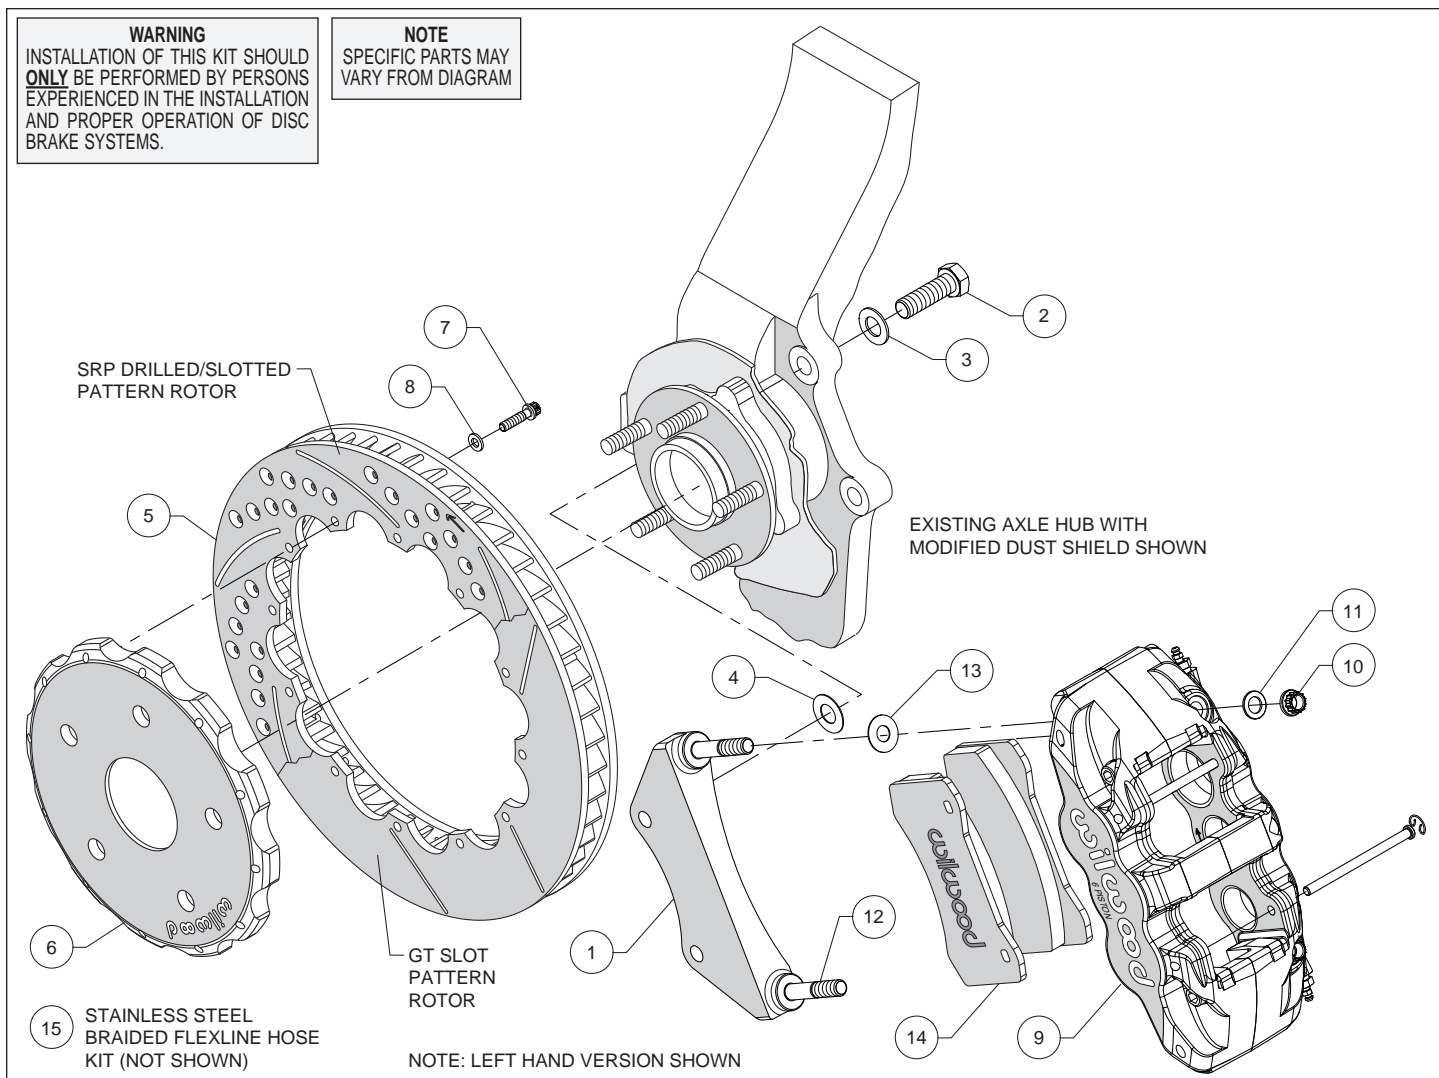
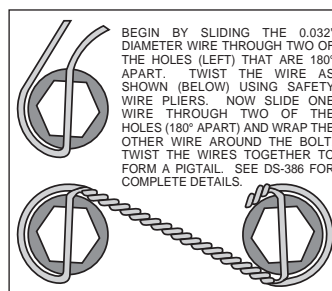

Figure 1. Typical Installation Configuration
Figure 3. Safety Wire Diagram
Assembly Instructions (numbers in parenthesis refer to the parts list and Figure 1 on the preceding pages):
- The caliper mount bracket (1) should initially be installed with clean, dry threads on the mounting bolts. Orient the bracket as shown in Figure 1 and Photo 2, and install using bolts (2) and washers (3). Initially place one .029 thick shim (4) on each bolt between the bracket and upright, Figure 1. Temporarily tighten the mounting bolts. **NOTE:** The bracket must fit squarely against the mounting points on the upright. Inspect for interference from casting irregularities, machining ridges, burrs, etc. Later, after the caliper alignment has been checked, the mount bolts will be secured using red *Loctite*[®] 271.
- Orient the rotor (5) and the hat (6) as shown in Figure 1 and Photo 3. Attach rotor to hat using bolts (7) and washers (8). Using an alternating sequence, apply red *Loctite*[®] 271 to the threads, and torque to 155 **in-lbs**. For an added measure of security, the bolts may be safety wired using standard 0.032 inch diameter stainless steel safety wire as shown in Figure 3. Please refer to Wilwood's data sheet DS-386 for complete safety wire installation instructions.
- NOTE:** This kit contains distinct right and left hand calipers that must be mounted in a specific direction, as described below. Lubricate the caliper mounting studs (12) with lightweight oil. Initially place one .030" thick shim (13) on each stud between the caliper and the bracket, as shown in Figure 1 and Photo 4. Mount the caliper (9) onto the bracket (1) using lock nuts (10) and washers (11), Figure 1. Ensure that the caliper is mounted so the largest pistons are at the rotor exit end of the caliper, in relation to the direction of rotor rotation. Temporarily tighten the lock nuts and view the rotor through the top opening of the caliper. The rotor should be centered in the caliper, Photo 5. If not, adjust by adding or subtracting shims (4) between the bracket and the upright. Always use the same amount of shims on each of the two mounting bolts. Once the caliper alignment is correct, remove the bracket mounting bolts (2) one at a time, apply red *Loctite*[®] 271 to the threads, and torque to 77 ft-lbs.
- Remove the two pad retaining pins from the caliper (9) by carefully popping out the pin retaining clips and sliding out the pins. Insert the brake pads (14) into the caliper from the bottom, Figure 1 and Photo 6. With the friction material facing the rotor, secure the brake pads in place with the pad retaining pins and clips, Photo 7. Reinstall the caliper (9) onto the caliper mounting bracket (1) and temporarily tighten the lock nuts (10). Check that the top of the brake pad is flush with the outside diameter of the rotor, Photo 8. If not, adjust by adding or subtracting shims (13) between the caliper and the bracket. After the caliper pad height is set, torque the caliper lock nuts (10) to 47 ft-lb.